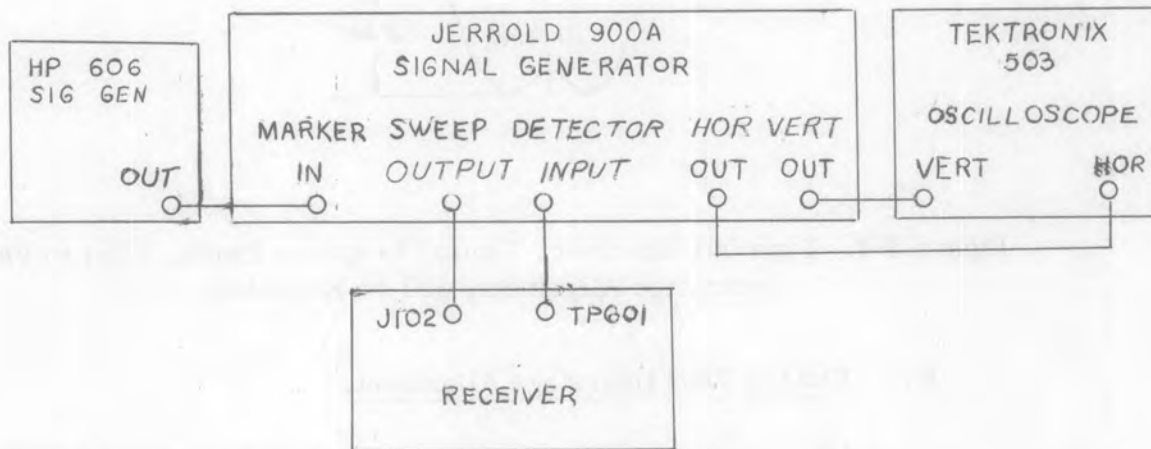
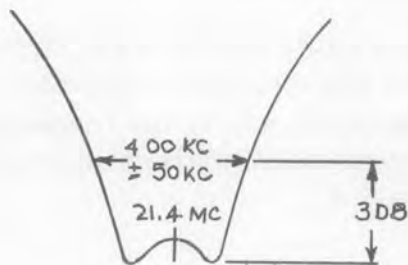
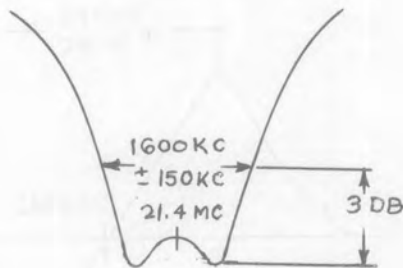

Figure 5-3. Type 501 Receiver, Equipment Setup, V601 to V602 Interstage Alignment, 300-kc Bandwidth
Figure 5-5. Type 501 Receiver, Typical Response Curve, V602 to V603 Interstage Alignment
Figure 5-6. Type 501 Receiver, Typical Response Curve, V603 to V604 Interstage Alignment
- (1) Set up test equipment as shown in Figure 5-3.
- (1) Set up test equipment as shown in Figure 5-3 except that sweep output of sweep generator should be connected to pin 4 of V602.
- (2) By removing P601 from J601, disconnect IF strip from RF tuners.
- (3) Adjust Jerrold 900-A sweep generator near 21.4 mc for narrow sweep width with its detector switch at external detector position.
- (4) Set oscilloscope vertical sensitivity at 50 mv per cm and adjust sweep generator sweep width until a response curve is well displayed on oscilloscope screen.
- (5) Set receiver BANDWIDTH switch to 300 KC position.
- (6) Adjust L605 and L606 for a symmetrical response centered at 21.4 mc, as shown in Figure 5-5.
- (1) Set up test equipment as shown in Figure 5-3 except that sweep output of sweep generator should be connected to pin 4 of V603.
- (2) Adjust Jerrold 900-A sweep generator near 21.4 mc for narrow sweep width with its detector switch at external detector position.
- (3) Set oscilloscope vertical sensitivity at 50 mv per cm and adjust sweep generator sweep width until a response curve is well displayed on oscilloscope screen.
- (4) Set receiver BANDWIDTH switch to 300 KC position.
- (5) Adjust L607 and L608 for a symmetrical response curve centered at 21.4 mc.
- (6) Adjust C657 for dip in center of response curve, as shown in Figure 5-6.
- (1) Set up equipment as shown in Figure 5-3 except that sweep output of sweep generator should be connected to pin 4 of V603 and the detector input should be connected to the receiver's FM output, E602.
- (5) Adjust phasing of the sweep generator.